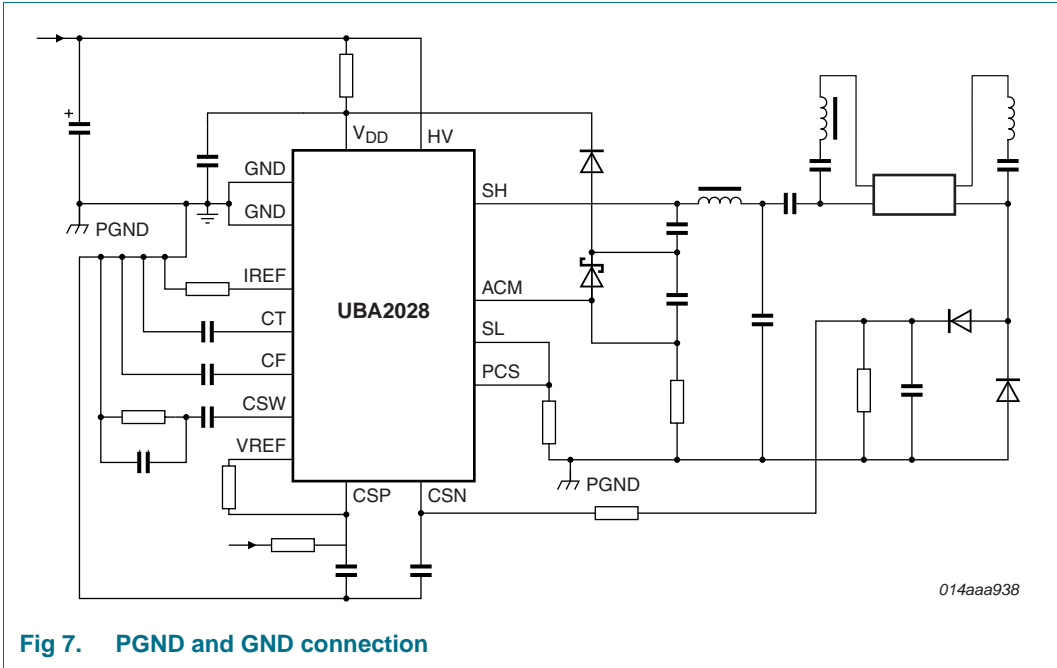

Fig 7. PGND and GND connection
The internal oscillator is a Voltage Controlled Oscillator (VCO) circuit which generates a sawtooth waveform between the $V_{o(osc)max}$ level and 0 V. The frequency of the sawtooth is determined by capacitor C_{CF} , resistor R_{IREF} , and the voltage at pin CSW. The minimum and maximum switching frequencies are determined by R_{IREF} and C_{CF} ; their ratio is internally fixed. The sawtooth frequency is twice the half-bridge frequency. The UBA2028 brings the transistors TR1 and TR2 into conduction alternately with a duty cycle of approximately 50 %. An overview of the oscillator signal and driver signals is illustrated in Figure 7. The oscillator starts oscillating at f_{max} . During the first switching cycle the Low-Side (LS) transistor (TR2) is switched on. The first conducting time is made extra long to enable the bootstrap capacitor to charge.
The non-overlap time is realized with an adaptive non-overlap timing circuit (ANT). By using an adaptive non-overlap circuit, the application can determine the duration of the non-overlap time and make it optimum for each frequency; see Figure 7. The non-overlap time is determined by the slope of the half-bridge voltage, and is detected by the signal across resistor R15 see Figure 8 (R6 in Figure 9) which is connected directly to pin ACM. The minimum non-overlap time is internally fixed. The maximum non-overlap time is internally fixed at approximately 25 % of the bridge period time. An internal filter of 30 ns is included at the ACM pin to increase the noise immunity.
The connection of PGND and GND is shown in Figure 7